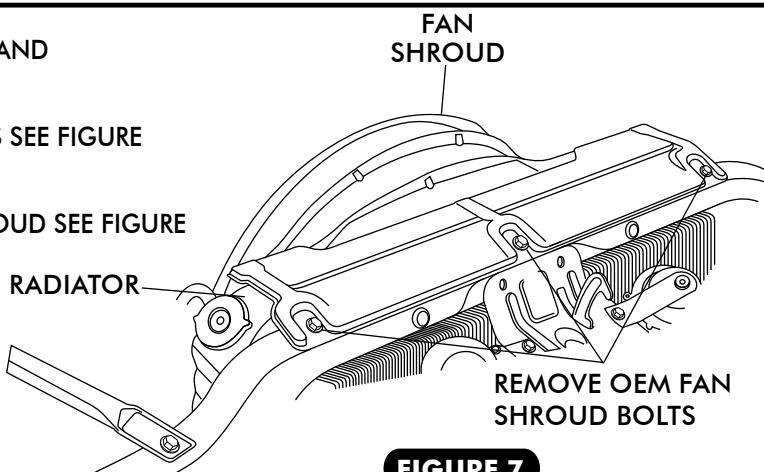

FIGURE 7
- ☐ REMOVE OEM FAN SHROUD BOLTS SEE FIGURE 7 BELOW.
- ☐ REMOVE RADIATOR AND FAN SHROUD SEE FIGURE 7 BELOW.